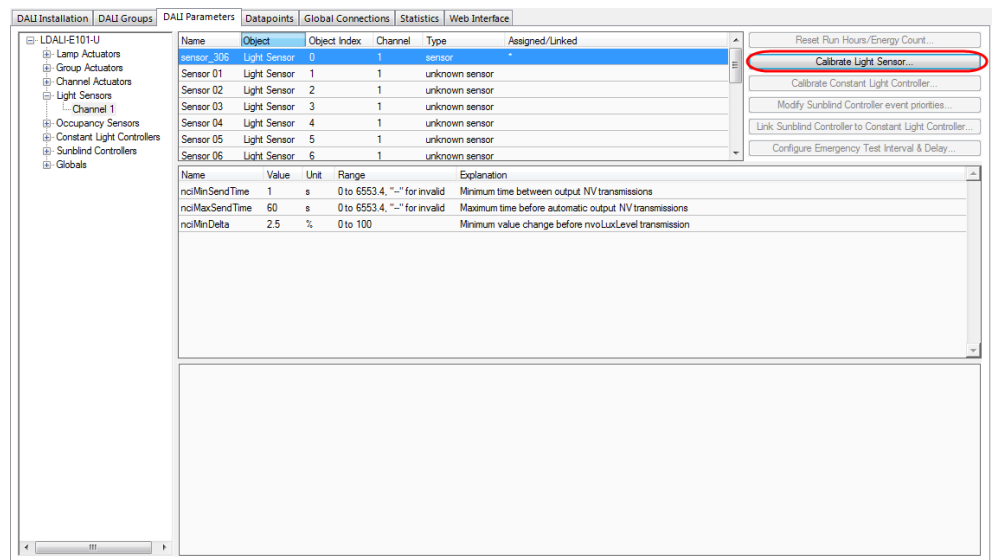
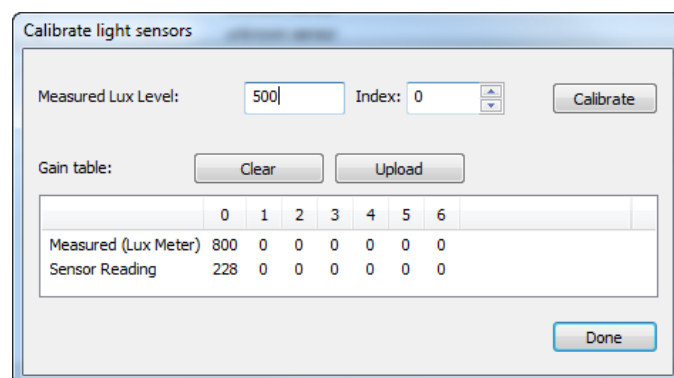

Figure 46: Parameterize Light Sensor.
Figure 47: Calibrate Light Sensor.
- Select the light sensor index 0 and click on the **Calibrate Light Sensor...** button as shown in Figure 46. The light sensor calibration window as shown in Figure 47 is displayed.